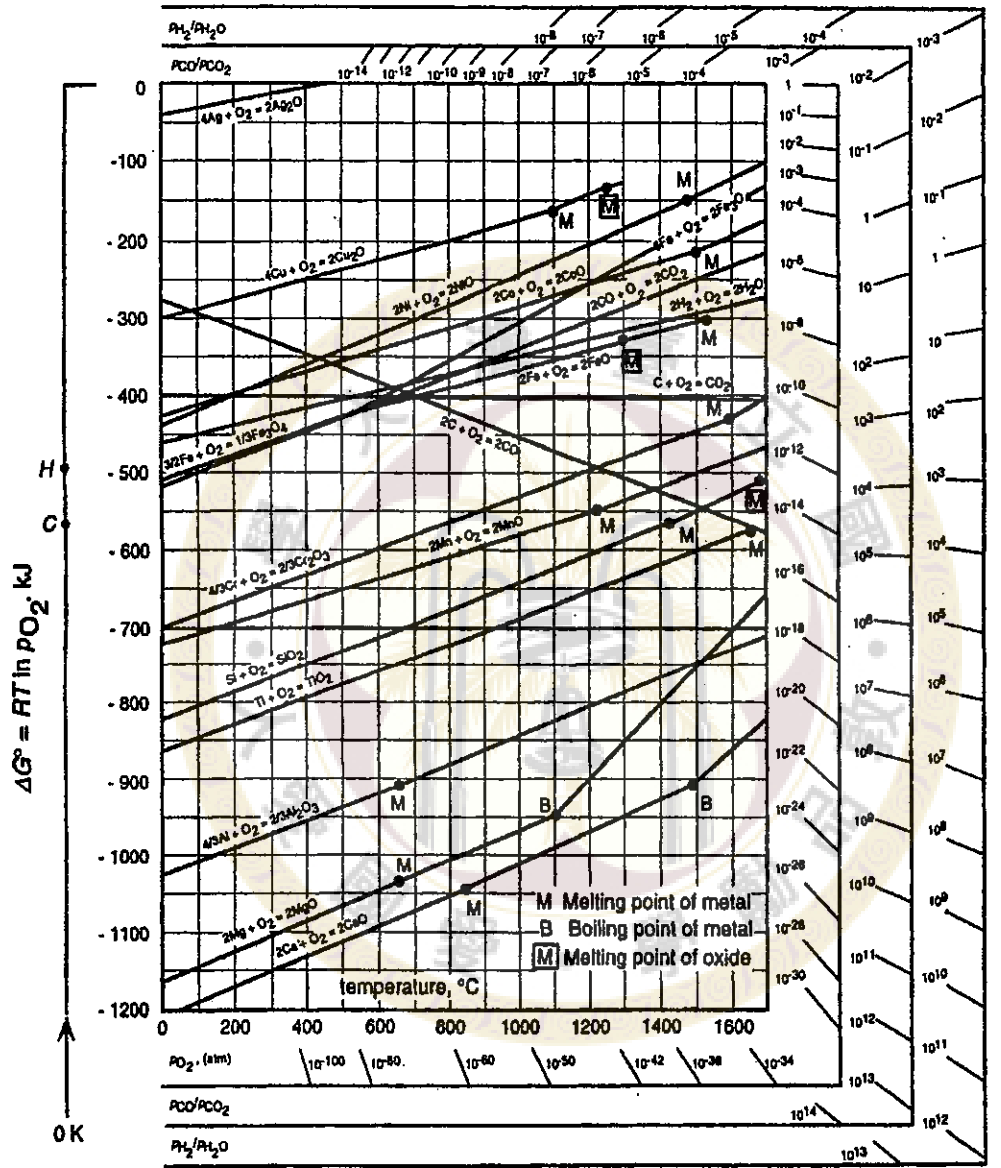

Figure 1 The Ellingham diagram for selected oxides.
3. A  $\text{CO}_2$ -CO- $\text{H}_2\text{O}$ - $\text{H}_2$  gas mixture at a total pressure of 1 atm exerts a partial pressure of oxygen of  $10^{-6}$  atm at 1600 °C. In what ratio were  $\text{CO}_2$  and  $\text{H}_2$  mixed to produce the gas with this oxygen pressure? Use the Ellingham Diagram (Figure 1) for your data. (20%)